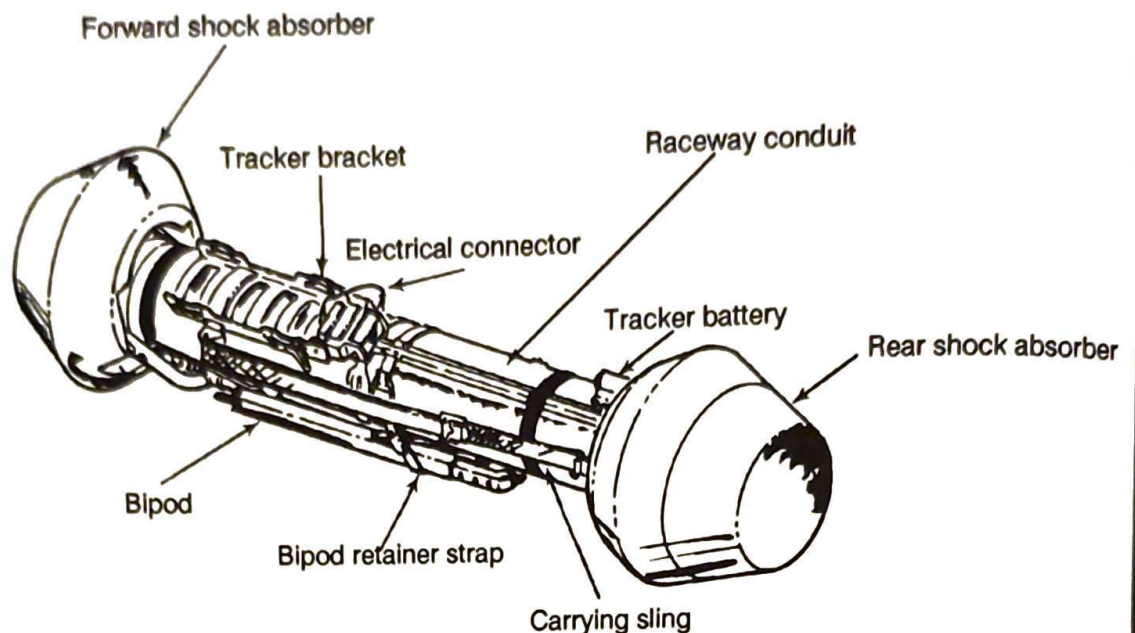

Figure 1-9. M222/MK 1, MOD 0, tactical round external components.
c. **Ammunition.** The Dragon ammunition is an expendable component (Figure 1-9), consisting of the missile and launcher. The missile is installed in the launcher at the factory and shipped in a ready-to-fire configuration. The launcher serves as a storage and carrying case for the missile before launch.
(1) The launcher consists of a smoothbore, fiberglass tube, breech/gas pressure generator